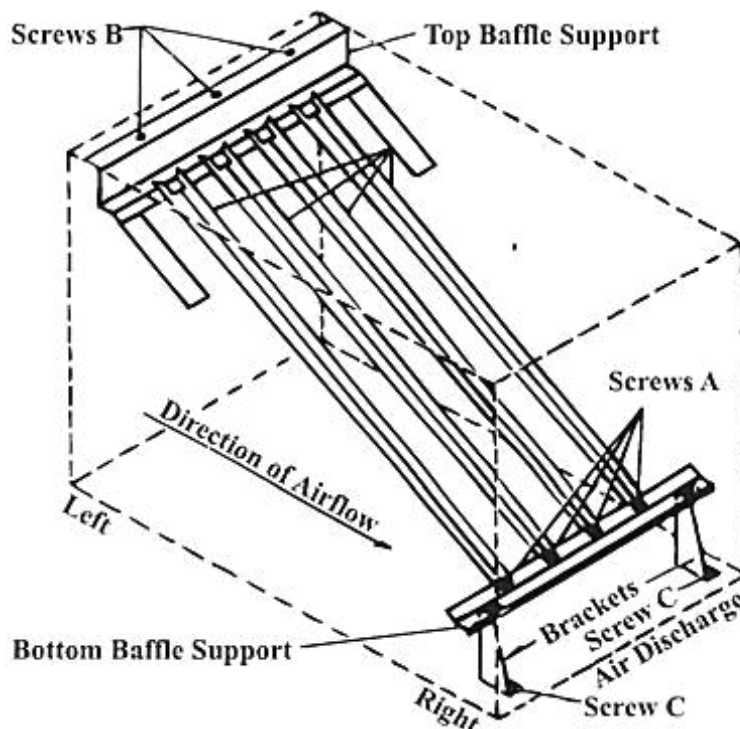

Figure 4. Heat Exchanger Air Baffles
NOTE: Models with prefix *H* are factory-built for high CFM capability and include only the top baffle support shown in Figure 4. To reverse airflow, move the top baffle support. The top baffle support must always be on the entering air side of the unit.
1. Remove A screws (see Figure 4) and lift each baffle slightly and slide forward, removing each baffle from heat exchanger.
2. Remove C screws (see Figure 4) and remove bottom baffle support and brackets from heat exchanger.
3. Remove B screws (see Figure 4) and remove top baffle support. Install top baffle support on opposite end of heat exchanger using B screws.